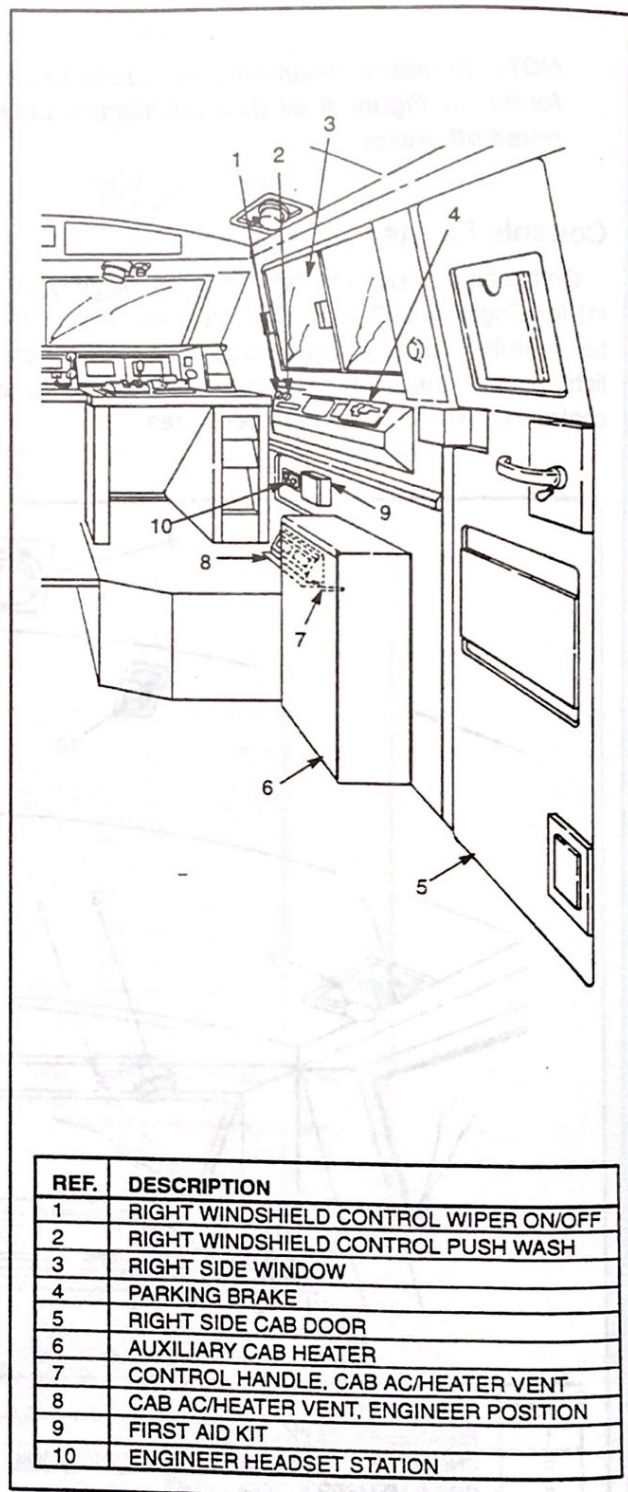

FIG. 10. OPERATING COMPARTMENT EQUIPMENT, RIGHT SIDE. E-42712.
**NOTE:** Numbers in parentheses ( ) refer to items found on Figure 10 of this publication unless noted otherwise.